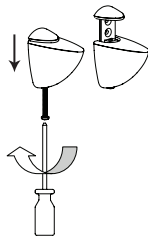

Figure 1
STEP 1: Loosen the adjusting screw on the Shelf Grip until the inner hole appears, as shown in **Figure 1**. Repeat for the other Shelf Grip.